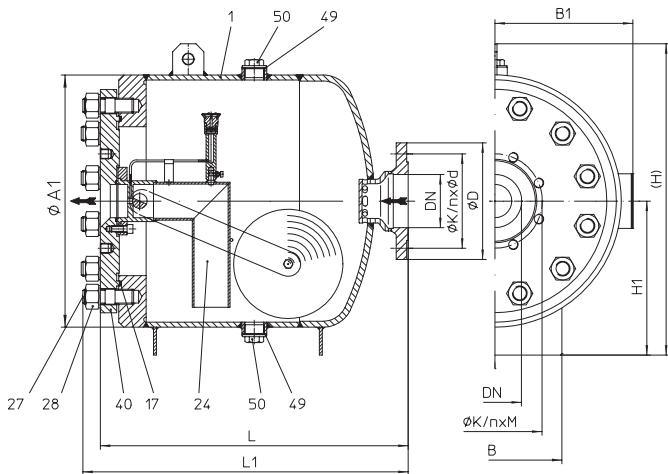
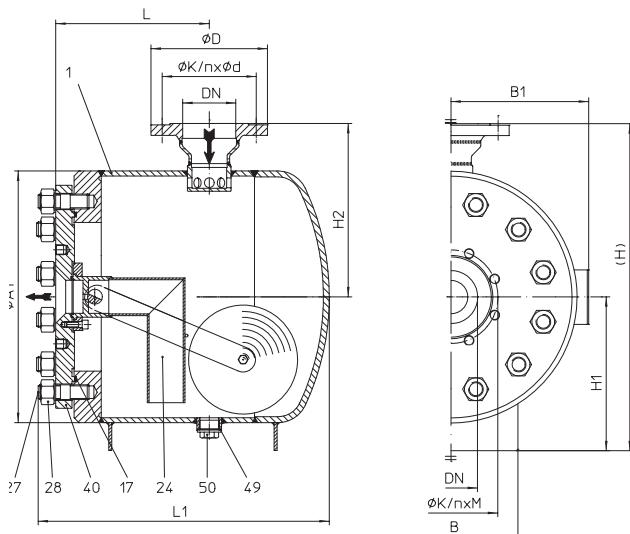

Fig. 637....1 with flanges -
Fig. 638....1 Angle pattern design with flanges -
- Rapid system start-up and venting of air during operation due to thermostatic air venting capsule (only at Fig.637 necessary)
- Fig. 637: straight through (inlet from right or left)
|                           |                | Fig. 637 (Straightway) |               |               |               | Fig. 638 (Angle pattern design) |               |               |               |